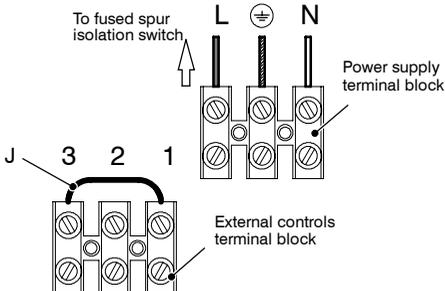

Fig. 6.15
- 6 Connect the electrical supply flexible cord coming from the fused spur isolation switch to the power supply terminal block of the boiler (Fig. 6.15) keeping the same connections for the live (brown wire) and the neutral (blue wire). External 3 A fuse or fused plug with same current rating is recommended.
When connecting any type of external control, the link J in Fig. 6.15 must be removed.